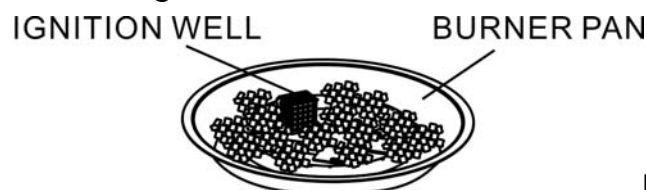

Figure 8
8. Pour ALL of the provided glass beads into the firepan. The burner MUST be completely covered by glass beads to ensure the appliance functions properly and safely. Remove any glass beads on top of the ignition well. See Figure 8.